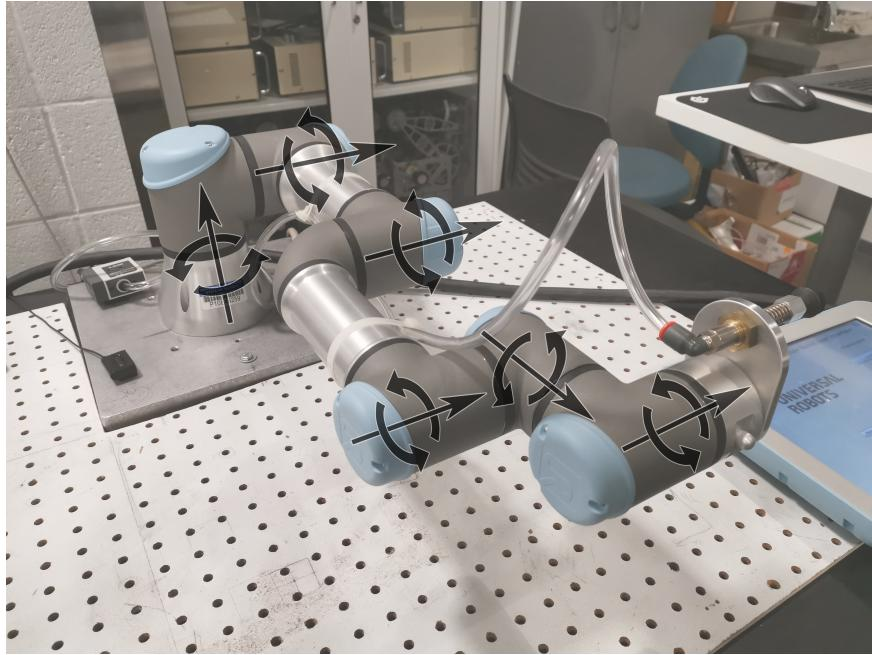

Figure 4.3: Screw axes on UR3e.
- Figure 4.3 shows the screw axes and direction of rotation (use the right rule) for each joint.